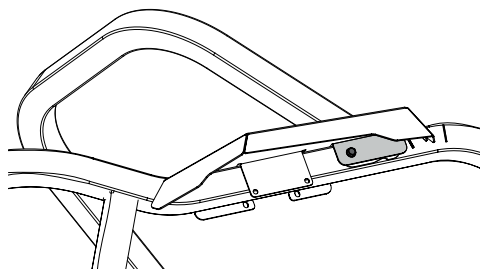

Figure 3
3. Line up the front hole of the bracket with the rear hole on the upper tractor frame and upper hoop, then reinstall the screw removed in step 1. Torque to 179-219 in lbs (20.5-24.5 N-m). See Figure 3.